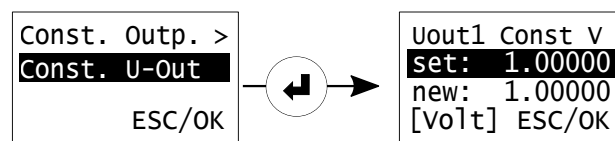

Figure 6.11: Setting a constant voltage output.
5. **Changing the value of the constant output:** in case you chose the **Const. Outp.** mode, you can manually change the value of the constant voltage output by moving the cursor to the second display line **Const. U-Out**, clicking <ENTER>, and entering the desired value followed by clicking **OK** (see Figure 6.11).